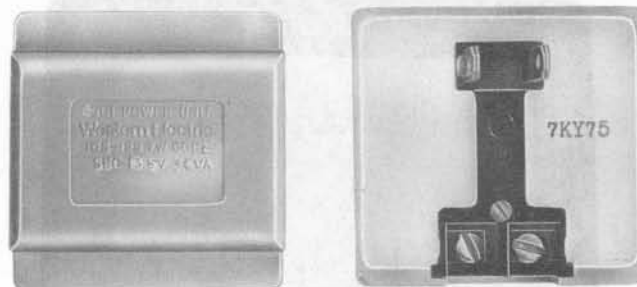

Fig. 21—95B1 Power Unit
**13.01** The 95B1 power unit (Fig. 21) is used to furnish ac power for the TOUCH-A-MATIC® 32 telephone set. Available in Light Olive Gray (-49) only.